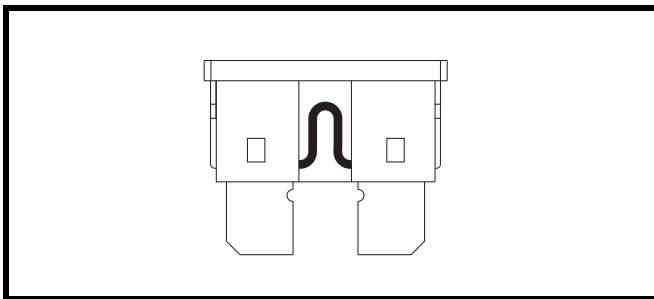

Figure 27. Working Fuse
2. Examine the fuse to be sure it is blown. **See figures 27 and 27A.**